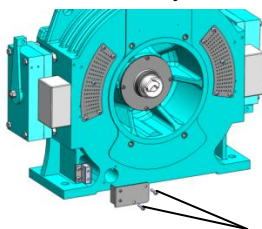

Figure 27
1. Dismantle the jigger hole cover with a cross screw-driver, at the same time, the contacts tore apart, main circuit disconnected, shown as figure 27;